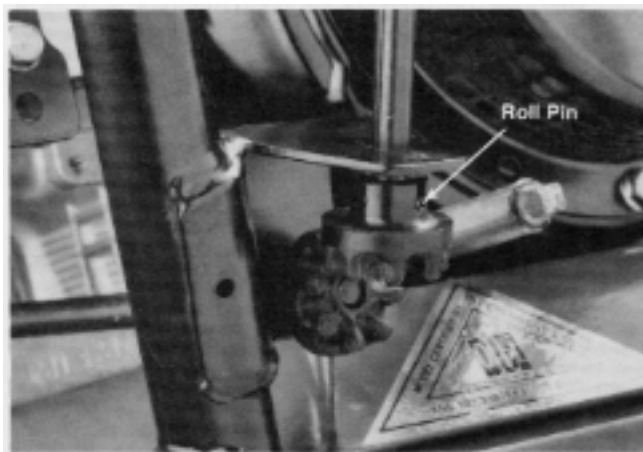

Figure 56
1. Remove the roll pin in the upper gear. See Figure 56.